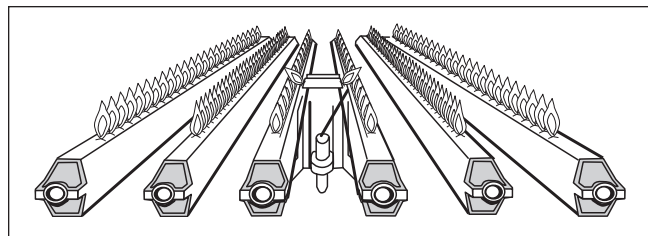

Figure 16. Main Burner Flame Pattern.
2. At start-up and every six (6) months thereafter, the pilot and main burner flame should be observed for proper performance (see Figure 16). See attached lighting and shut-down instructions for proper pilot flame pattern. If flame has the appearance of "sooting" tips, check for debris near orifices and call the Pentair Service Department.